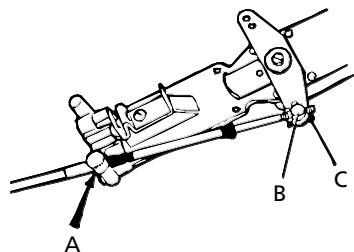

Fig. 8
- Push the gear cable through the holder and make sure the cable jacket hooks securely to the holder (A fig. 8).
- Connect the pivot to the gear lever (B fig. 8) and secure with the split pin. (C fig. 8)